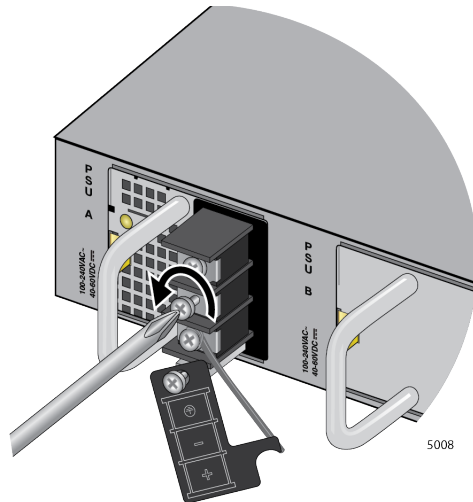

Figure 48. Loosening the Screw for the Negative (-)
3. Loosen the middle screw for the negative (-) with a Phillips-head screwdriver. Refer to Figure 48.